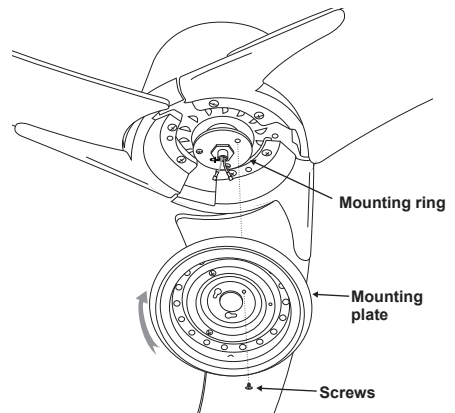

Figure 16
Step 2. Most fan wobble problems are caused when blade levels are unequal. Check this level by selecting a point on the ceiling above the tip of one of the blades. Measure this distance as shown in Figure 16. Rotate the fan until the next blade is positioned for measurement. Repeat for each blade. The distance should be equal within 1/8".
Step 2. Place the key holes on the mounting plate over the 2 screws previously loosened from the mounting ring, turn mounting plate until it locks in place at the narrow section of the key holes. Secure by tightening the 2 screws previously loosened and the one previously removed. (Fig. 16)